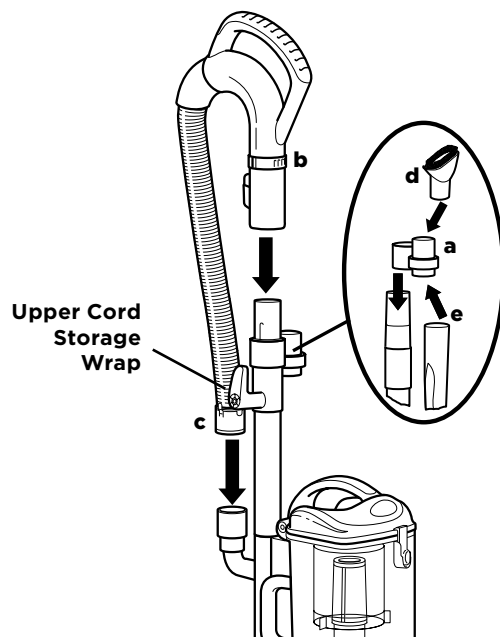

Fig. 9
- 4 Slide the accessory holder (a) positioned opposite the upper cord wrap, over the extension wand. Align the tab with the groove and push down. (Fig. 9)
- 5 Push the handle (b) onto the top of the extension wand until it clicks into place. (Fig. 9)
- 6 Insert the end of the stretch hose (c) into the connector on the back of the canister, pressing it in until it clicks into place. (Fig. 9)
- 7 Store the dusting brush (d) and the crevice tool (e) on the mounts of the accessory holder. (Fig. 9)